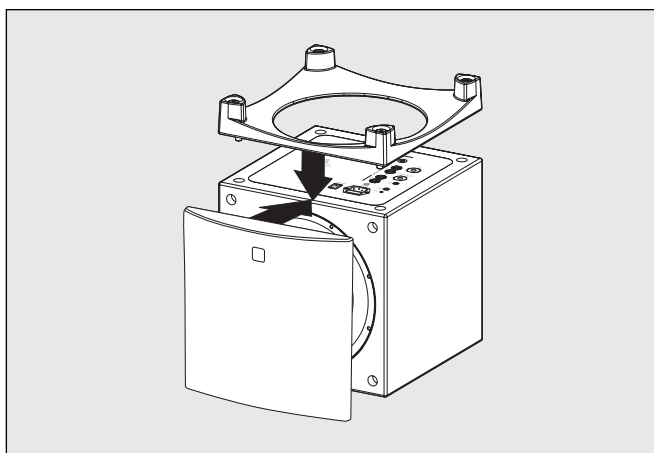

Figure 18. Step 3—Converting the Dynamo to a front firing configuration.
- 3 Place the Dynamo base over the backplate and gently push it into place. Install the grill cover onto the front of the Dynamo (see figure 18). *Please note, when the Dynamo is used in a down firing configuration 90° RCA adaptors may be required to make signal connections. Two 90° RCA adaptors are included with the Dynamo subwoofer.*